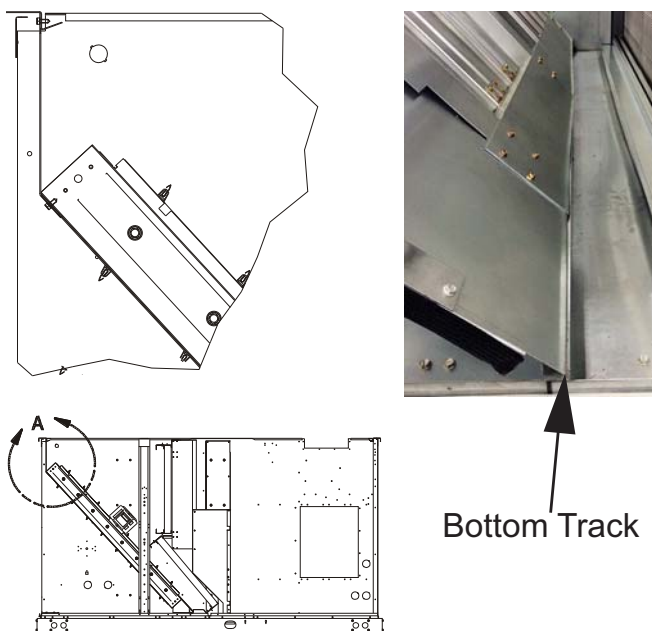

Figure 9 - Securing the damper to the top flange
7. Lift the economizer damper up past the top flange and pull the bottom of the damper into the bottom track. Rest the damper on the top flange. See Figure 9.
8. Fasten the damper to the top flange using the pilot holes and self-drilling screws provided. See Figure 9.